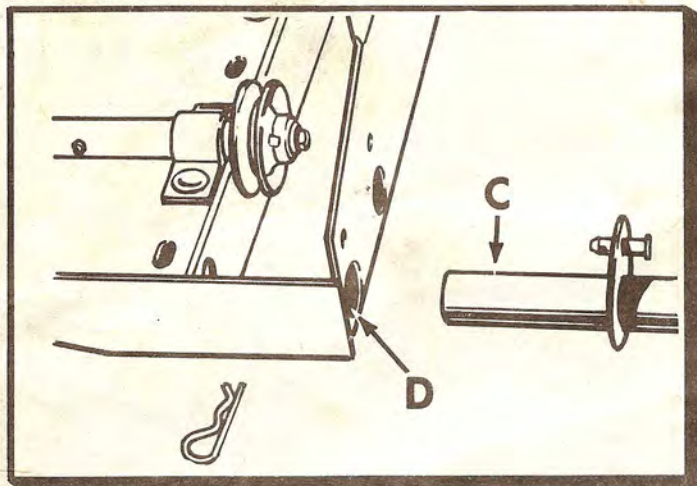

Fig. 5
## INSTALLATION OF MAIN FRAME TO TRACTOR FIG. 5
Slide main frame under tractor and center. Insert pivot pipe (C Fig. 5) into large outside hole (D) in main frame and locating peg into small hole. Secure with hair cotter pin through locating peg.